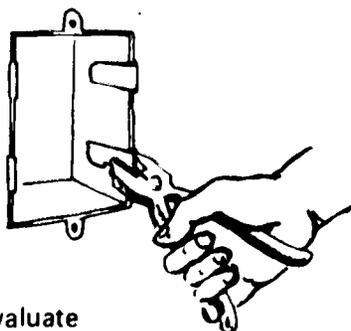

FIGURE 10
- L. Pinch tangs with lineman's pliers (Figure 10)